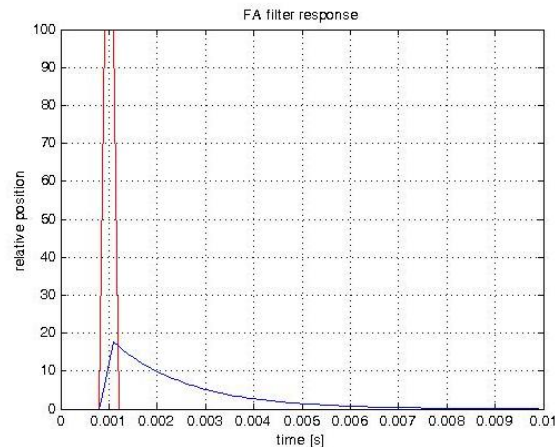

Figure 49: Substantial filtering (setting 15)
- Substantial filtering, setting 15, (Figure 49)